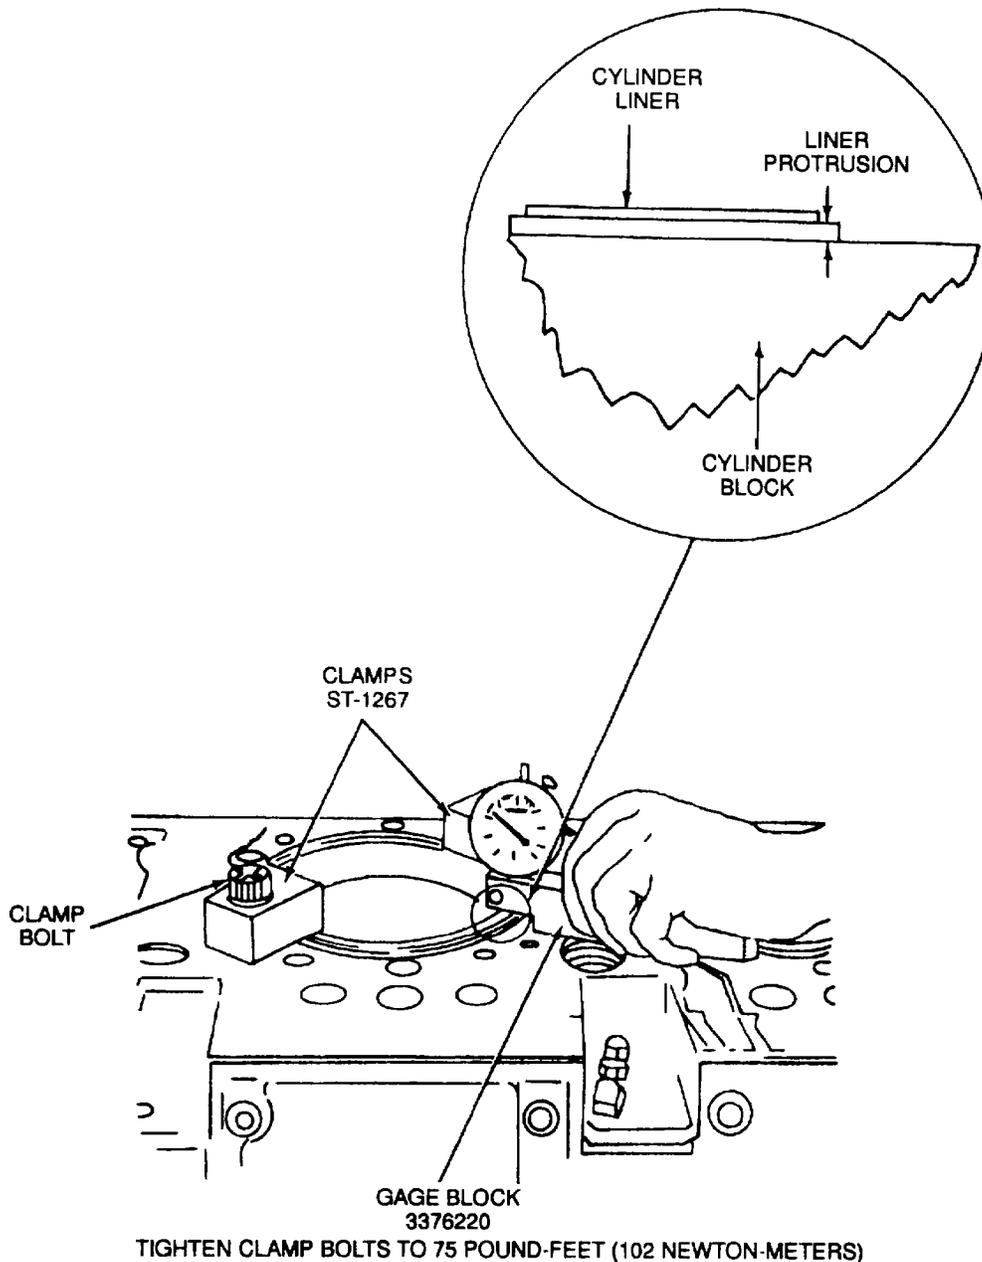

Figure 9-34. Checking Cylinder Liner Protrusion
- e. Install the cylinder liner damps ST-1 267 and check the liner protrusion with gage block 3376220 as follows (see Figure 9-34):
- (1) Position the damps on the cylinder liner flange 180 degrees apart with the damp holes centered on the threaded capscrew holes in the cylinder block. Install the cylinder damp bolts provided, and tighten evenly to 75 pound-feet (102 newton-meters).
- (2) Zero the dial gage of gage block 3376220 on the cylinder block surface. Be sure to hold the gage block flat on the cylinder block surface while zeroing the gage.
- (3) Move the indicator to index on the outer flange of the liner (Figure 9-34). Holding the gage block flat on the cylinder block surface, read the liner protrusion on the gage. Make three more measurements at 90 degrees intervals around the liner flange.
- (4) If the liner protrusion is not in accordance with Table 1-4, or varies more than 0.001 inch (0.03 mm), check the liner in accordance with paragraph 9-24.